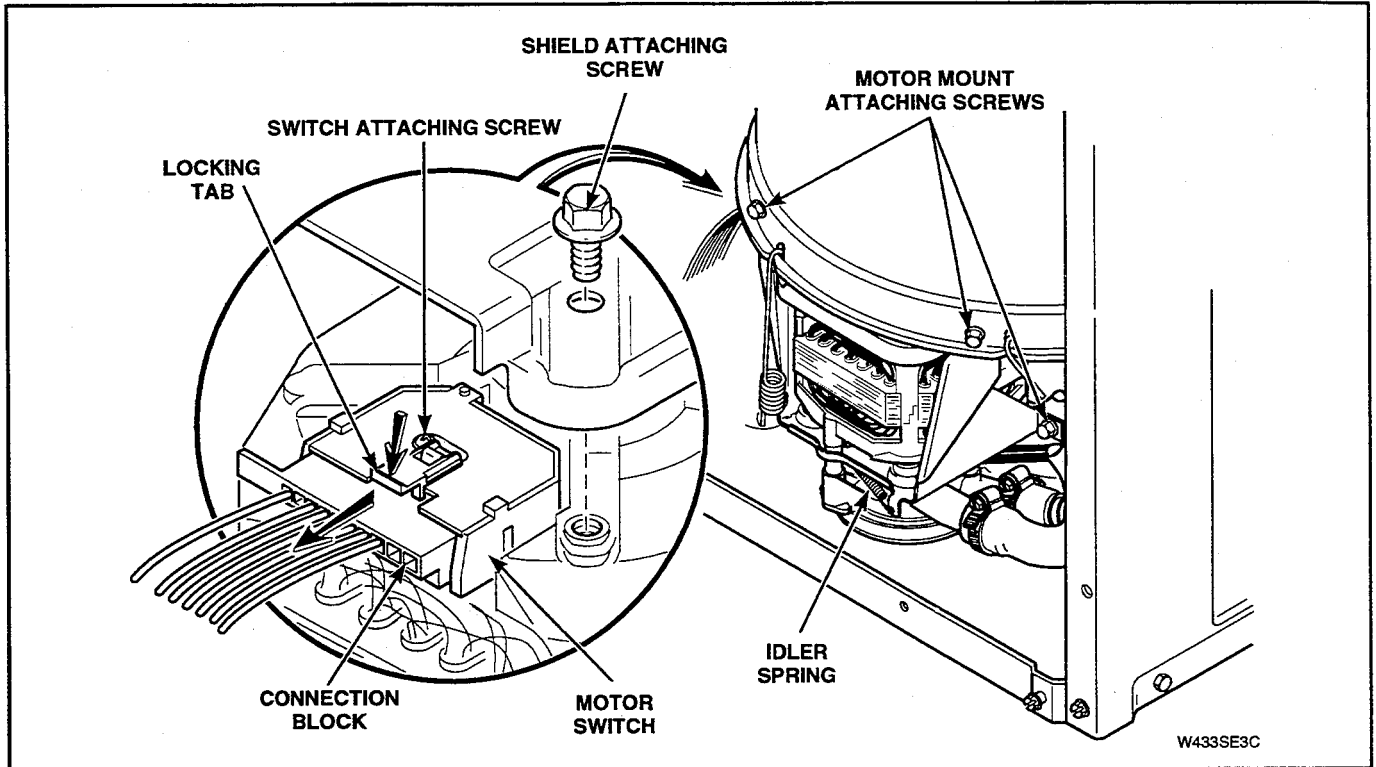

Figure 5-20
- g. Disconnect wire harness from motor switch by pressing down on locking tab on top of connection block and at the same time pull connection block away from motor switch. See Figure 5-20.
- h. Remove four screws holding motor mounting bracket to lower flange of outer tub and to weldment assembly. See Figure 5-20. Then remove complete assembly out of washer.
- Disconnect wire harness from motor switch by pressing down on locking tab on top of connection block and at the same time pull connection block away from motor switch. See Figure 5-20.
- Remove screw holding motor switch to motor. See Figure 5-20. Then remove switch.